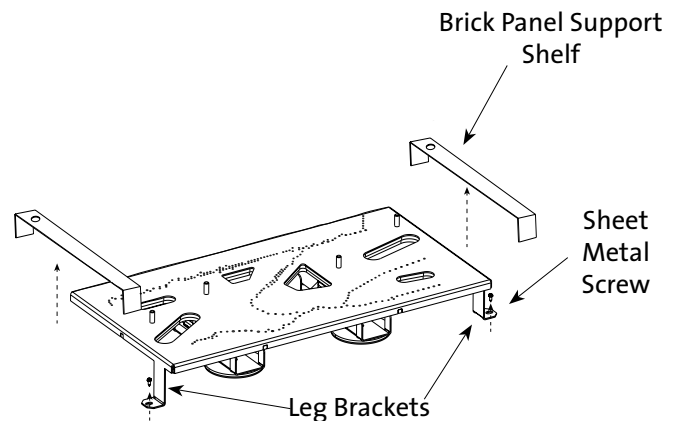

Figure 6.2. Remove the Leg Bracket screws. Pull the Burner assembly forward and up to disengage it from firebox.
5. Lift the Brick Panel Support Shelves from the firebox floor to access and remove two #8x 1/2" sheet metal screws that secure the two Burner Brackets to the floor. See fig. 6.2.
6. Grasp the burner at the sides and pull the assembly forward and up to disengage it from the burner injectors. Tilt the assembly to fit through the door opening, being carefull to avoid contact with enamel surfaces. See fig 6.2.